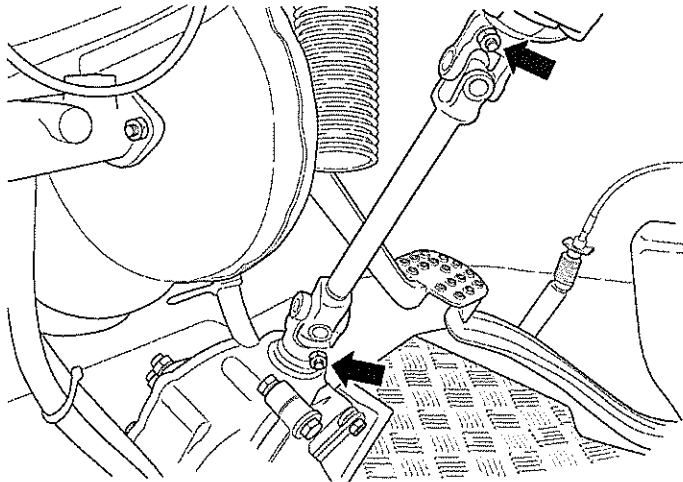

Fig 6 Cardan joint clamping bolts
- 16.2 Remove clamping bolts of cardan joints (see Fig 6).